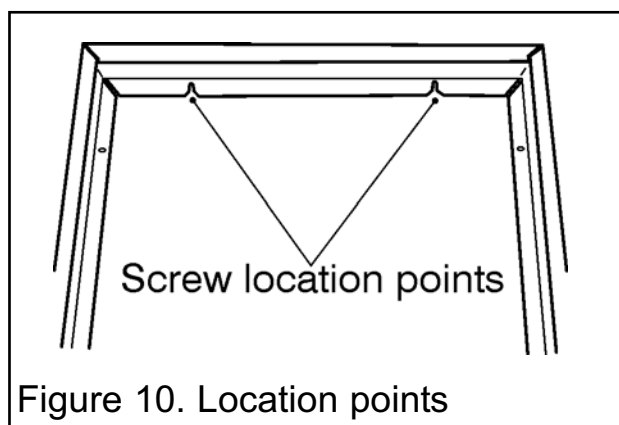

Figure 10. Location points
2. The top rear flange of the spacer frame has two screw locations. Mark the positions of the two screw locations on the rear wall (See figure 10).